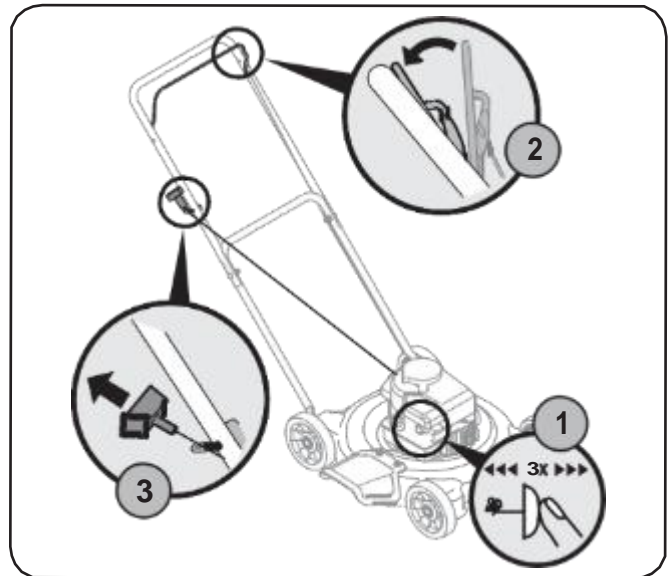

Figure 5-1
1. When starting the engine for the first time, push primer five times. For all future starts, push the primer three times. Wait about two seconds between each push. See Figure 5-1. Do not prime to restart a warm engine.
3. Holding these two handles together firmly, grasp recoil starter handle and pull rope out with a rapid, continuous, full arm stroke. See Figure 5-1. Keeping a firm grip on the starter handle, let the rope rewind slowly. Repeat until engine cranks. Let the rope rewind each time slowly.